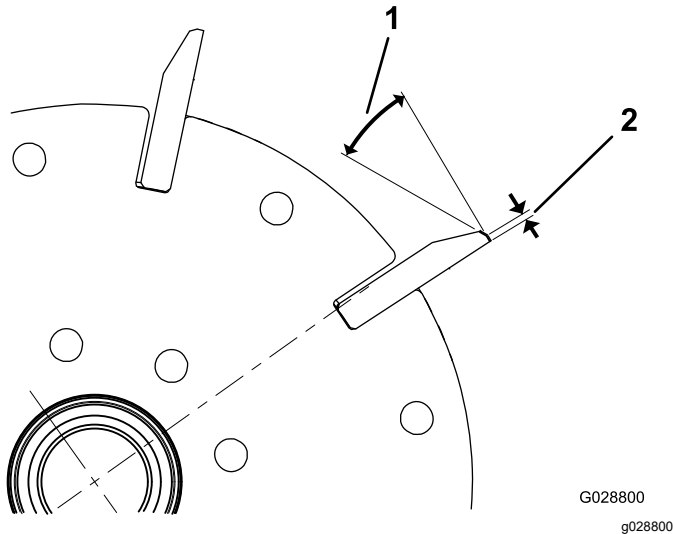
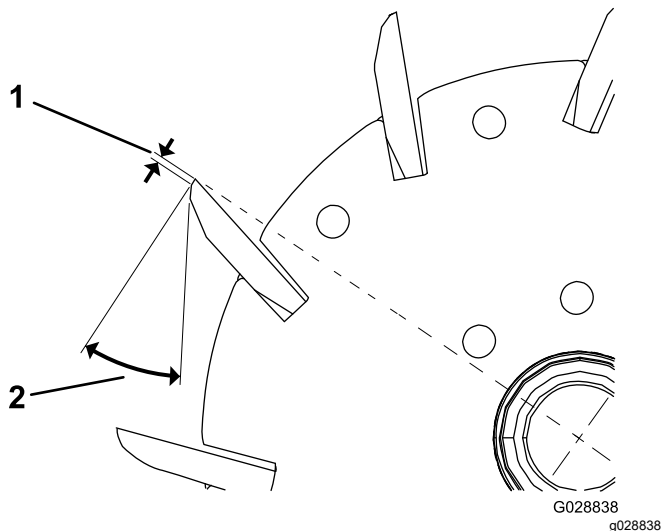

Figure 34
Figure 35
1. Apply a 30° relief grind on all reel blades until the land width is 1.3 mm (0.050 inch) wide (Figure 34 and Figure 35).